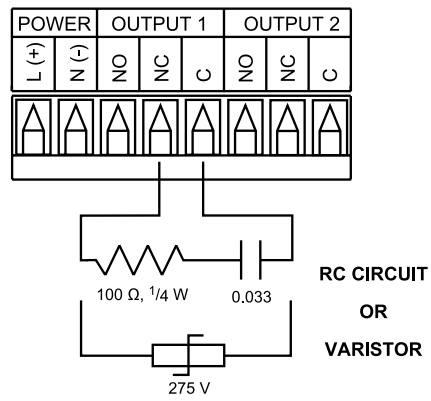

Figure 2.13
Note E32 If you have an inductive load connected between Common (C) and Normally Closed (NC) contacts of the mechanical relays and you want to protect them from the rush current during the switching period, you have to connect an external snubber circuit between Common (C) and Normally Closed (NC) contacts as indicated in Figure 2.13.